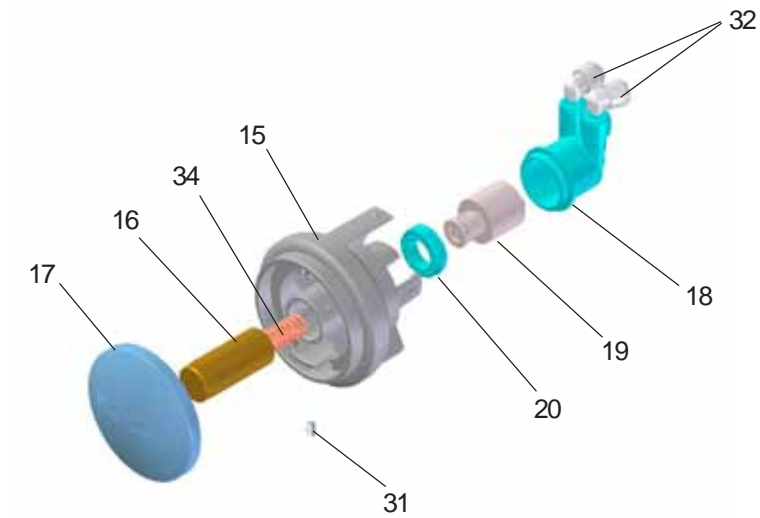

Figure 14 - Push Button
7. **Check** stream height from bubbler. Stream height is factory set at 35 PSI. If supply pressure varies greatly from this, remove push button (Item 17 - Figure 14) and adjust the screw on the regulator (Item 19 - Figure 14). To remove push button, remove setscrew from bottom of sleeve (Item 15). Insert a small punch in screw hole and push up while grasping the push button and pull forward removing the push button. Clockwise adjustment will raise stream height and counterclockwise movement will lower stream height. For best adjustment stream should hit basin approximately 6-1/2" from the bubbler. Reassemble push button by pushing in on button until the push button catches in the sleeve. Reinstall the setscrew (Item 31) in the sleeve (Item 15).
- Check** stream height from bubbler. Stream height is factory set at 35 PSI. If supply pressure varies greatly from this, remove push button (Item 17 - Figure 14) and adjust the screw on the regulator (Item 19 - Figure 14). To remove push button, remove setscrew from bottom of sleeve (Item 15). Insert a small punch in screw hole and push up while grasping the push button and pull forward removing the push button. Clockwise adjustment will raise stream height and counterclockwise movement will lower stream height. For best adjustment stream should hit basin approximately 6-1/2" from the bubbler. Reassemble the push button by pushing in on button until the push button catches in the sleeve. Reinstall the setscrew (Item 31) in the sleeve (Item 15).